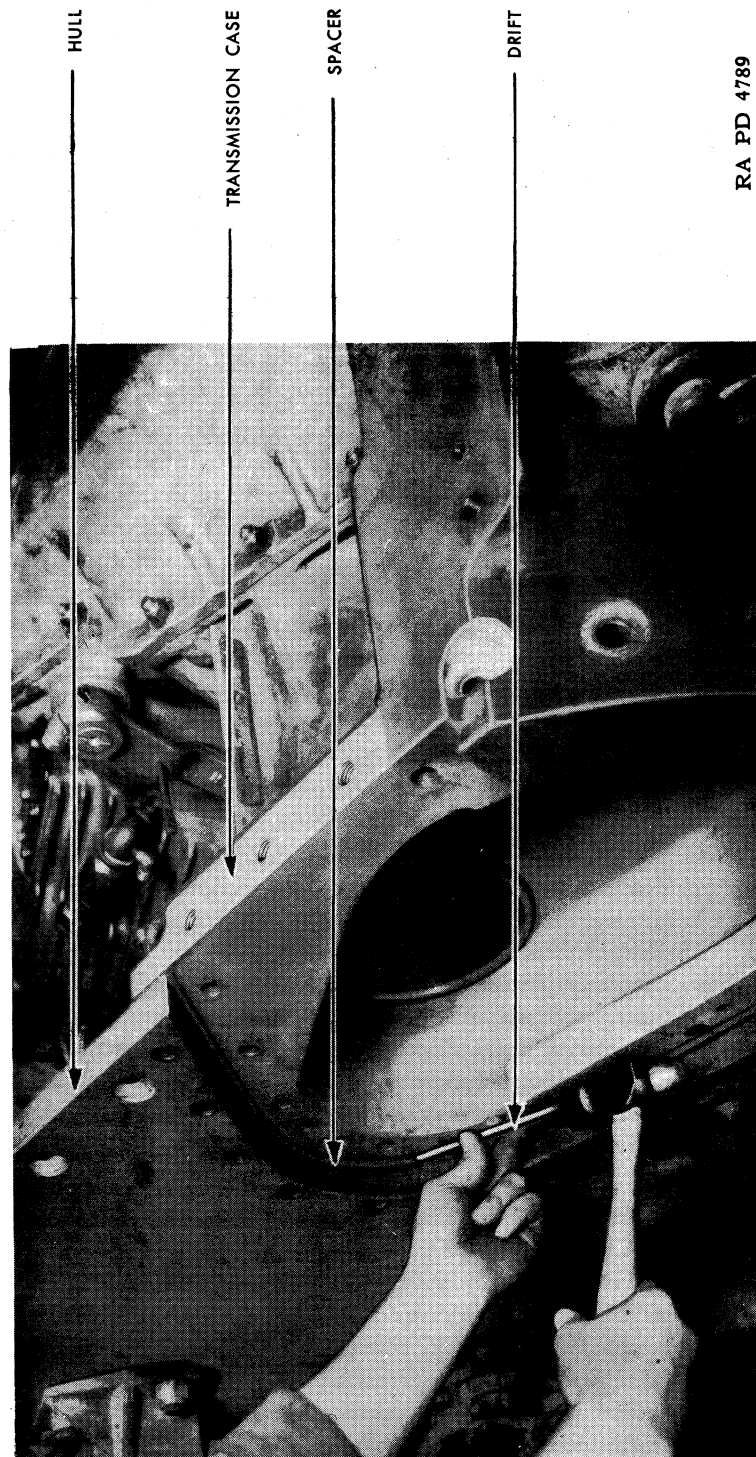

FIGURE 10—Method of removing spacers.
(33) Remove spacers between hull and transmission final drive flanges (fig. 10).